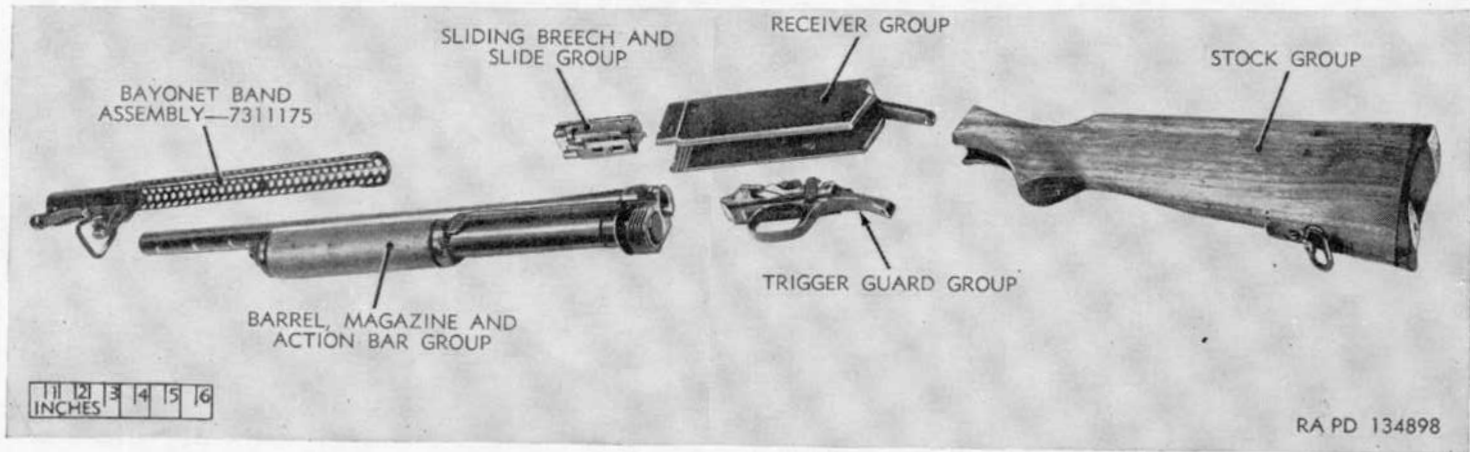

Figure 6. Major groups of the Stevens shotgun M520-30.
a. Most Stevens shotguns have the manufacturer's name and model number stamped on either the left side of the barrel or the left side of the receiver. However, this is not always the case. If the manufacturer's name does not appear on the weapon, it can be identified as described in (1) and (2) below.
- (1) The Stevens shotgun M520-30 can be identified by the shape of the receiver. The upper part of the rear of the receiver forms a corner. This weapon is the only one that has the safety located in the receiver tang and is the only one whose stock is fastened by a screw running vertically through the receiver tang and the stock.
(2) The Stevens shotgun M620A has the safety located in the trigger guard. It differs from the M520-30 by the substitution of a receiver extension for the receiver tang. The stock is fastened to the receiver extension by a bolt running horizontally through the stock.
c. These shotguns are primarily composed of a bayonet band assembly, a barrel, magazine, and action bar group, a stock group, a trigger guard group, a sliding breech and slide group, and a receiver group (figs. 6 and 7).